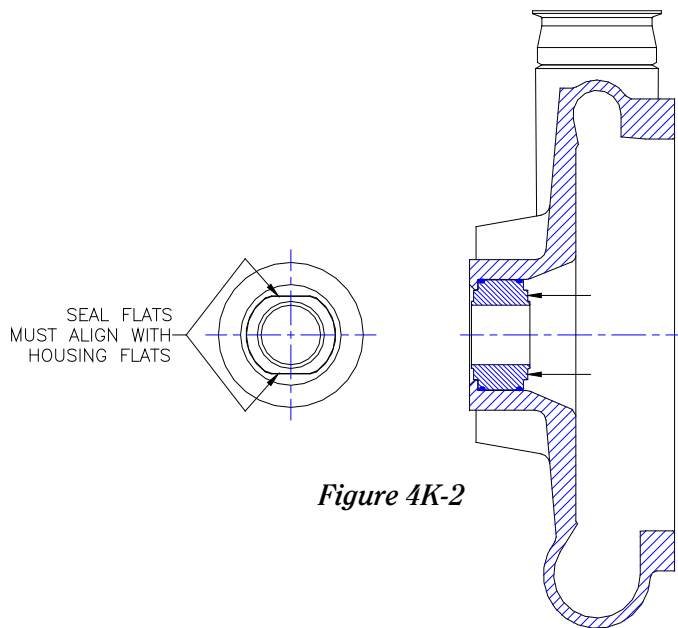

Figure 4K-2
6) Lubricate the rotating seal o-ring (41) with a food grade lubricant (unless the o-ring material is EPDM, then only water should be used for lubrication). Install the rotating seal o-ring onto the rotating seal (33).
7) With the impeller, blades on a clean surface, place the single seal spring (34) into the hub of the impeller.
8) Next install the rotating seal into the hub of the impeller (Figure 4K-3). Note: Align the pins in the hub of the impeller with the grooves of the rotating seal. If the seal is installed properly, it will not rotate.